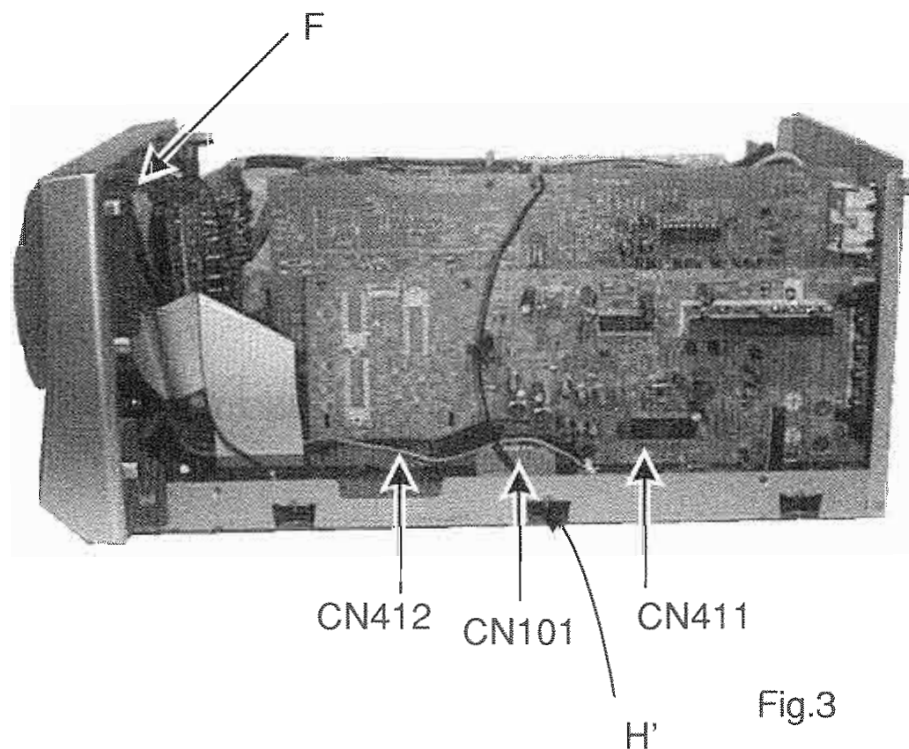

Fig.3
2. Remove the screw H' (Fig.3). (Universal type only)
- 2.Remove screws(F)fastening Earth wire of the up side(Fig3).